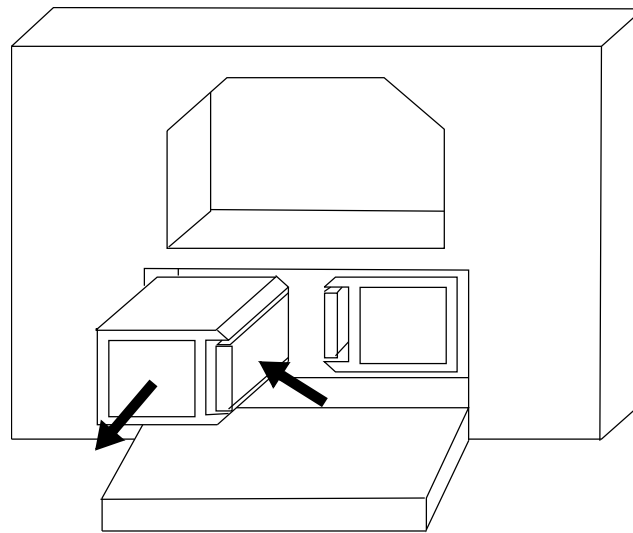

Fig. 31 - Taking out of the fuses
2. fuses are housed in other two separate containers which must be taken off the housing: push at the same time towards bottom and outwards the blocking tag as shown in Fig. 31.